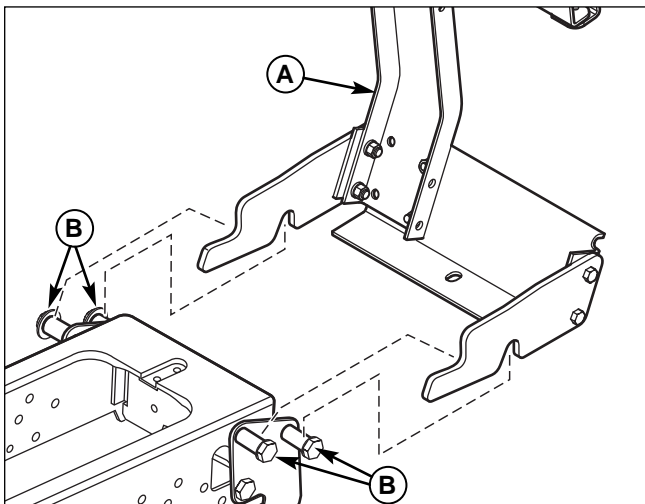

**Figure 12. Install Cover Assembly**
1. Attach cover assembly (B, Figure 12) to bag support bracket (A) using hinge pivots (E). Secure cover using cover hinge pins (C) and hair pins (D) as shown.